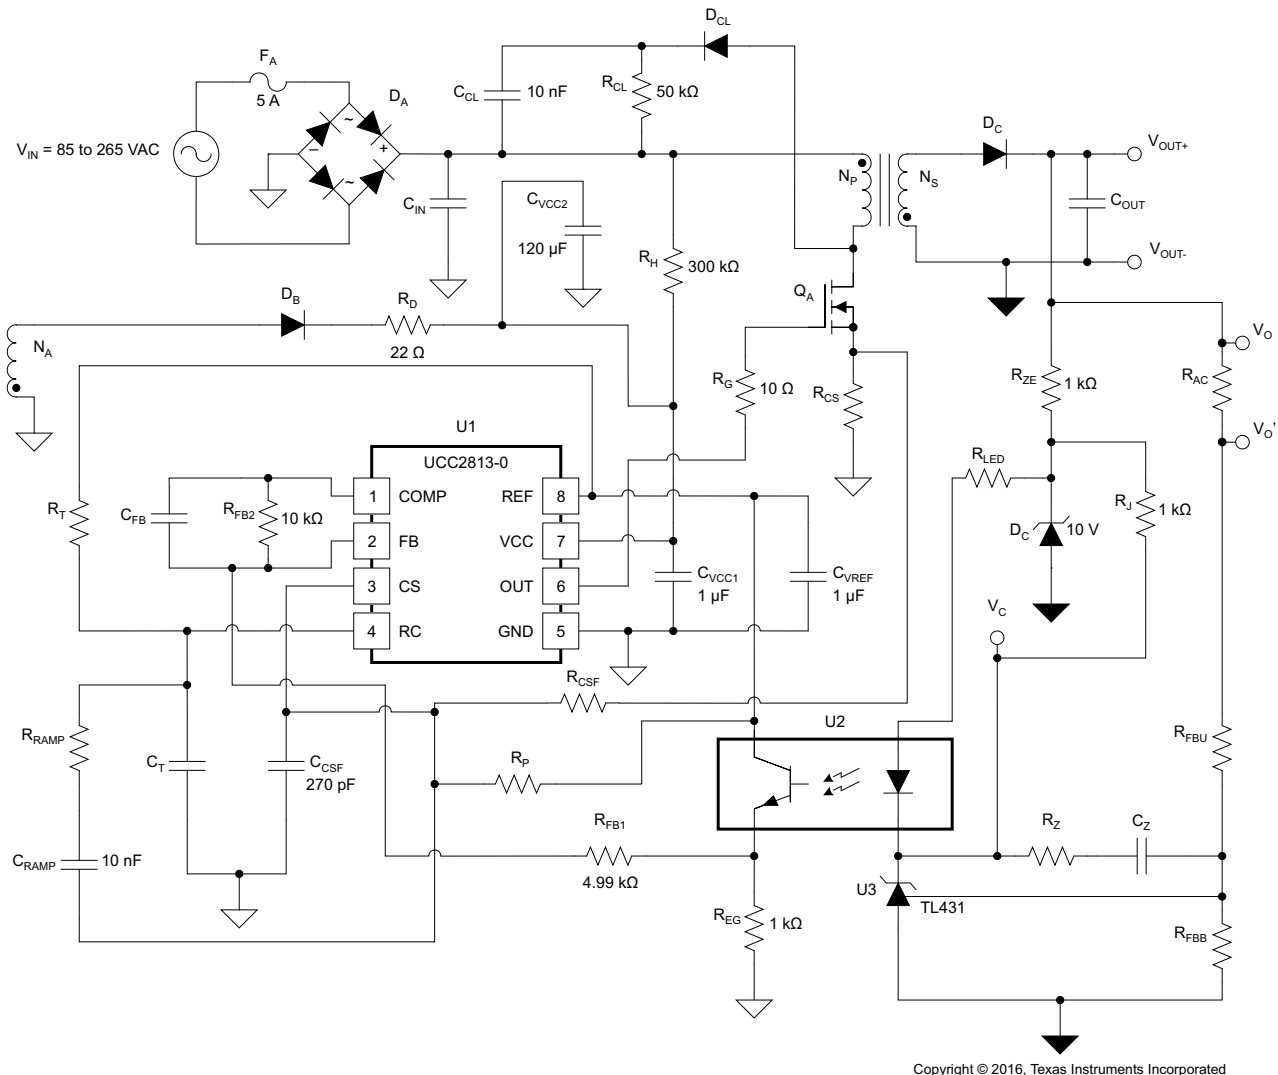

Figure 8-1. Typical Application Circuit Diagram
Figure 8-1 illustrates a typical circuit diagram for an AC-DC converter using the UCC2813-0-Q1 in a peak-current-mode-controlled flyback application.
The DC open-loop gain (G_O) of the fixed-frequency voltage control loop of a peak-current-mode control CCM flyback converter shown in Figure 8-1 is approximated by first using the output load (R_{OUT}), the primary to secondary turns ratio (N_{PS}), and the maximum duty cycle (D) as shown in Equation 18.